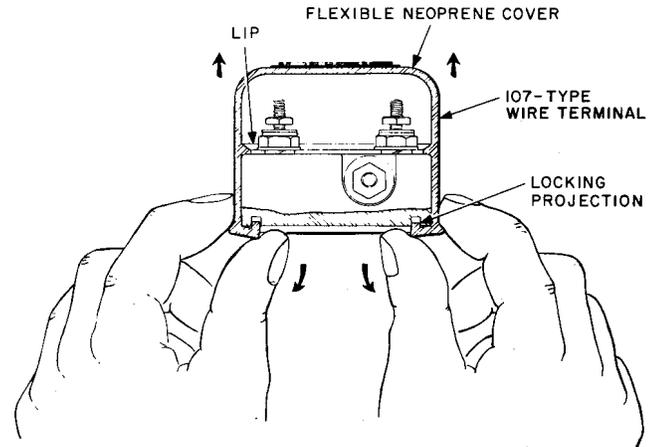

Fig. 1—Removing Cover
- 2.01 Remove the flexible neoprene cover by grasping the projections under the blocks between thumb and index finger as shown in Fig. 1. Twist the cover out of its locked position and when loosened, pull the cover off the blocks.